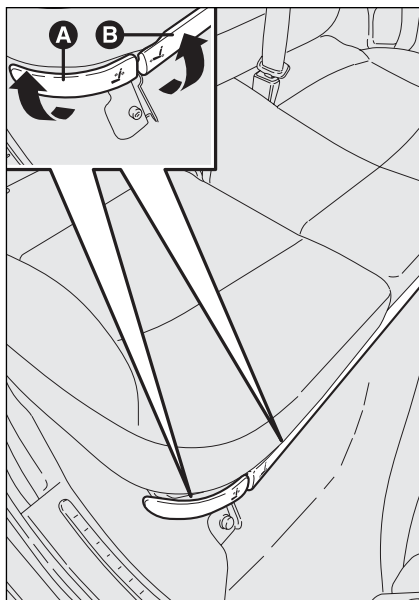

fig. 98
- operate the lever **B**-fig. 98 and adjust the seat in the required position (e.g. completely forward if you want to obtain maximum boot extension);